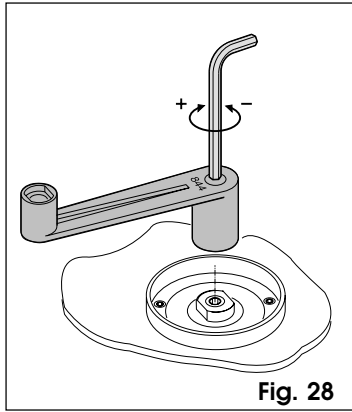

Fig. 28
- 3) Keep the motor shaft locked with the supplied lever and adjust the clutch adjustment screw as in Fig. 28.